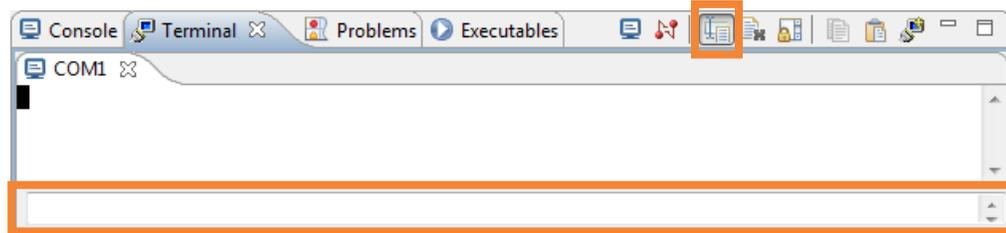

Figure 3.44. Terminal View
5. (Optional) Click the **Toggle Command Input** icon that adds an edit box to enter text (Figure 3.44).